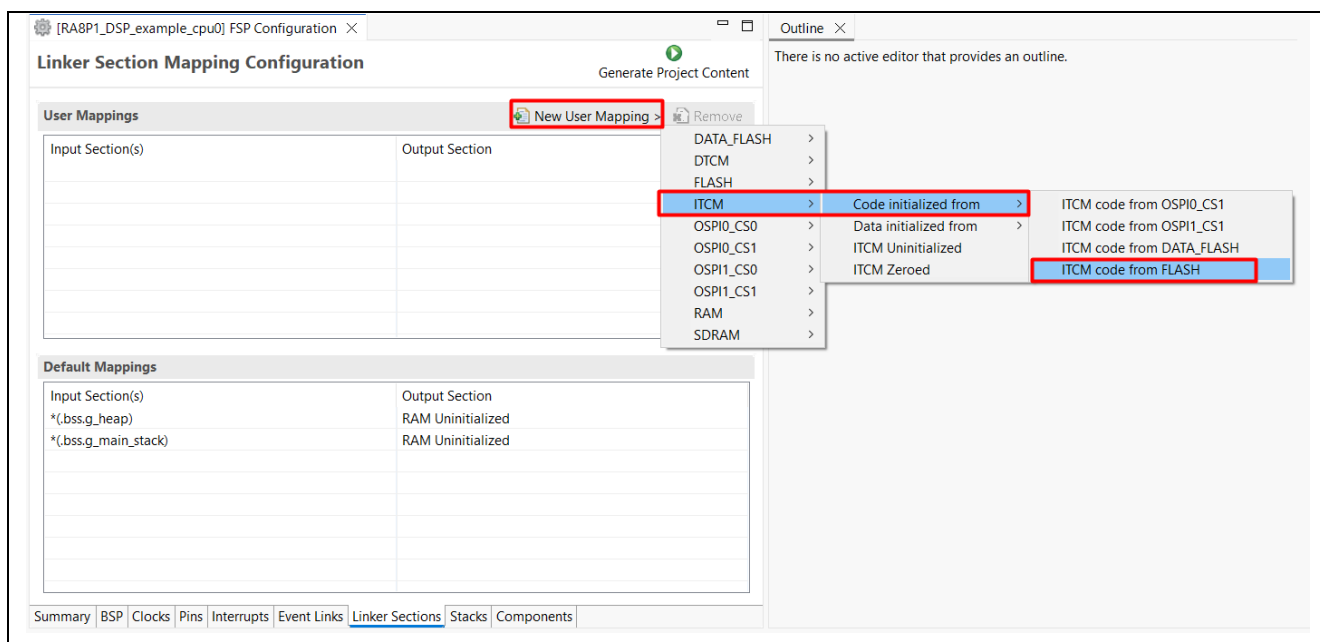
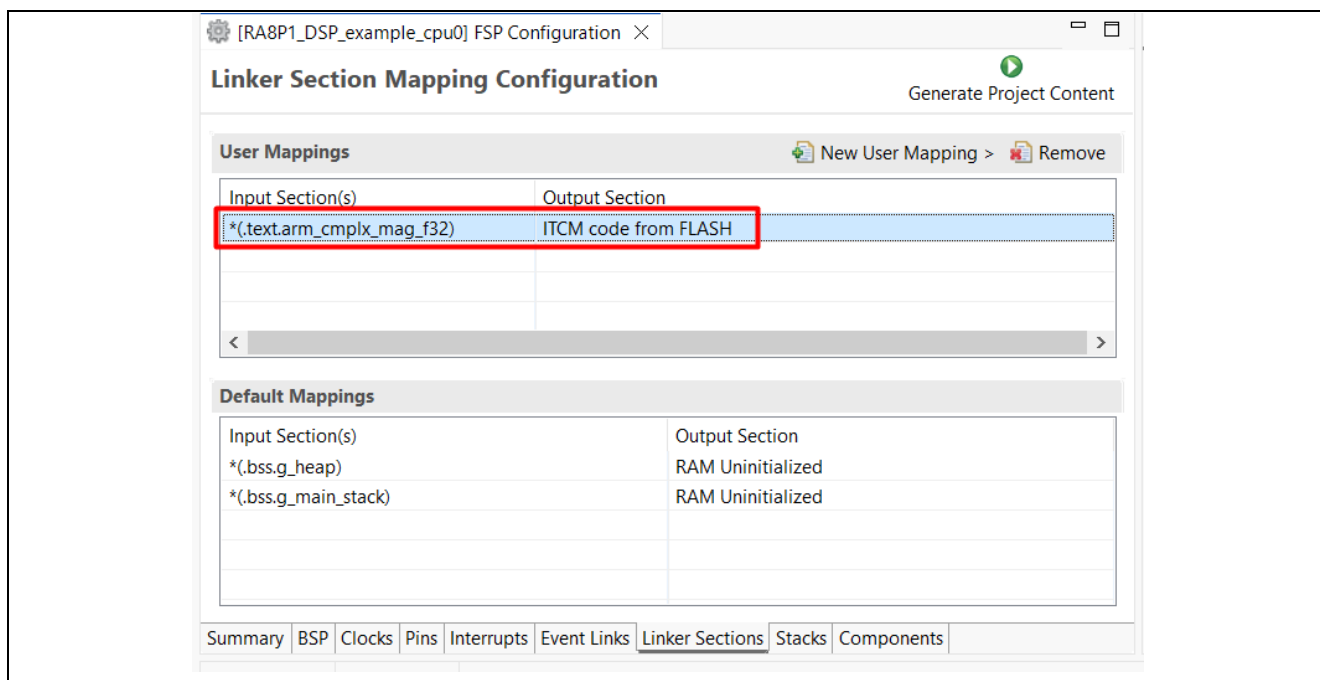

Figure 25. Example of Defining a New Section Mapping for ITCM
Figure 27. Example of Successful Setup for Function in ITCM section.
4. Assign the function `arm_cmplx_mag_f32` to the designated ITCM section (Figure 25 to Figure 27).
After completing the configuration shown in Figure 27, follow these steps to apply the changes: Click on **"Generate Project Content"** and then select **"Build Project"** to generate the code and compile the updated project configuration.